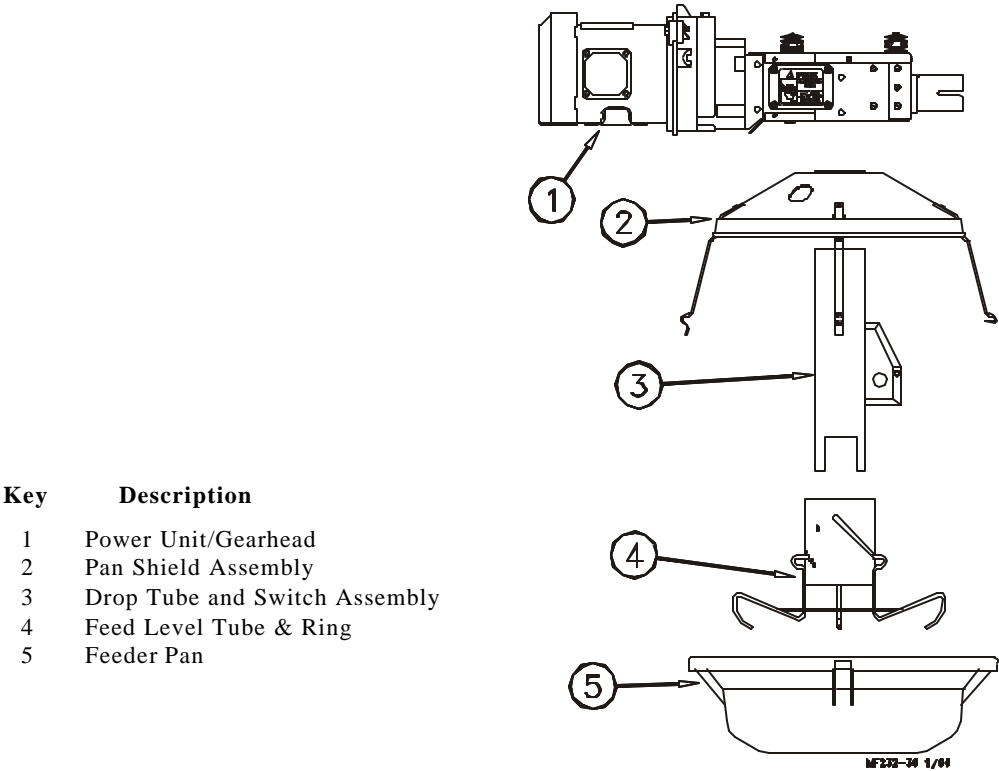

Figure 10. Drop Tube and Switch Assembly Installation.
- 5. Insert the Drop Tube and Switch Assembly through the Pan Shield, from the bottom. See Figure 10. The hole in the Pan Shield should be located on the same side of the Drop Tube as the Switch Cord and directly under the white box on the body assembly. Bolt the Drop Tube to the Body Assembly. The switch on the Drop Tube should be mounted opposite the Power Unit.